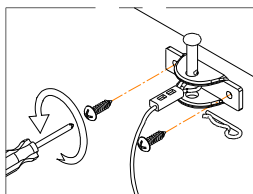

Figure 2
2. Attach 1 metal bracket near the middle-top back edge of the furniture piece by using shorter screws. (FIGURE 2)
5. Insert the clevis pin through holes on brackets and hole on metal cord. Using hair pin to go through small hole on clevis pin to lock it. (FIGURE 2)